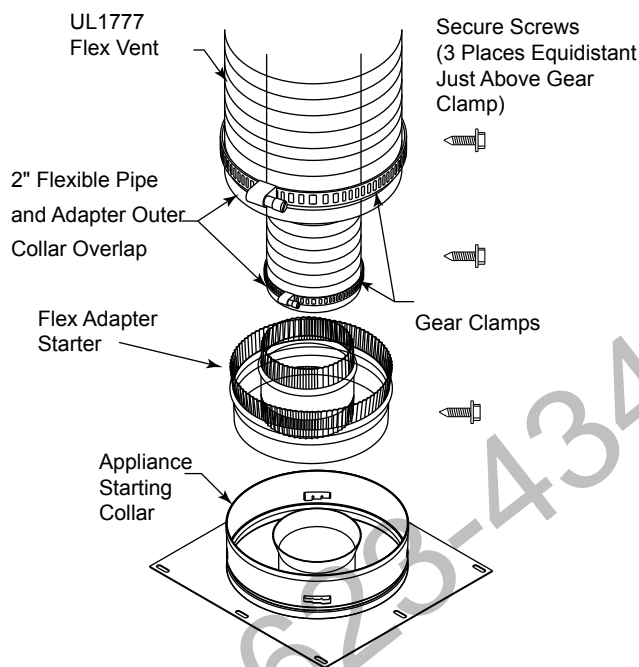

Figure 53 –
- B. Installing the outer flex pipe. *Figure 53*